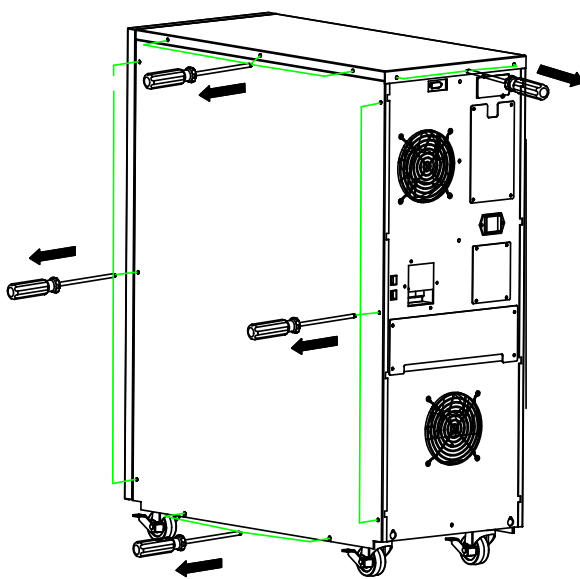

Figure 3.1
**STEP 1:** Remove all the screws; including those on the opposite side of the case, refer to Figure 3.1